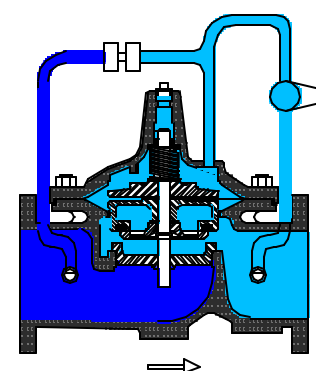

Figure 3
**Figure 3:** By regulating or balancing the pressure in the cover chamber (above the diaphragm), the valve will hold or modulate at an intermediate position until commanded to regulate open or closed by a modulating control pilot.